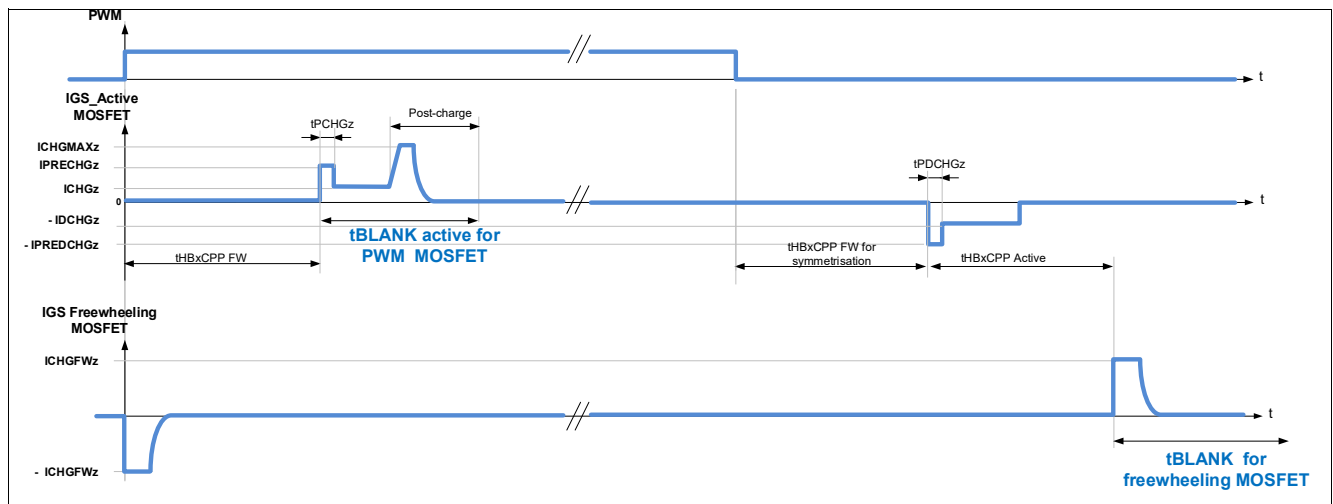
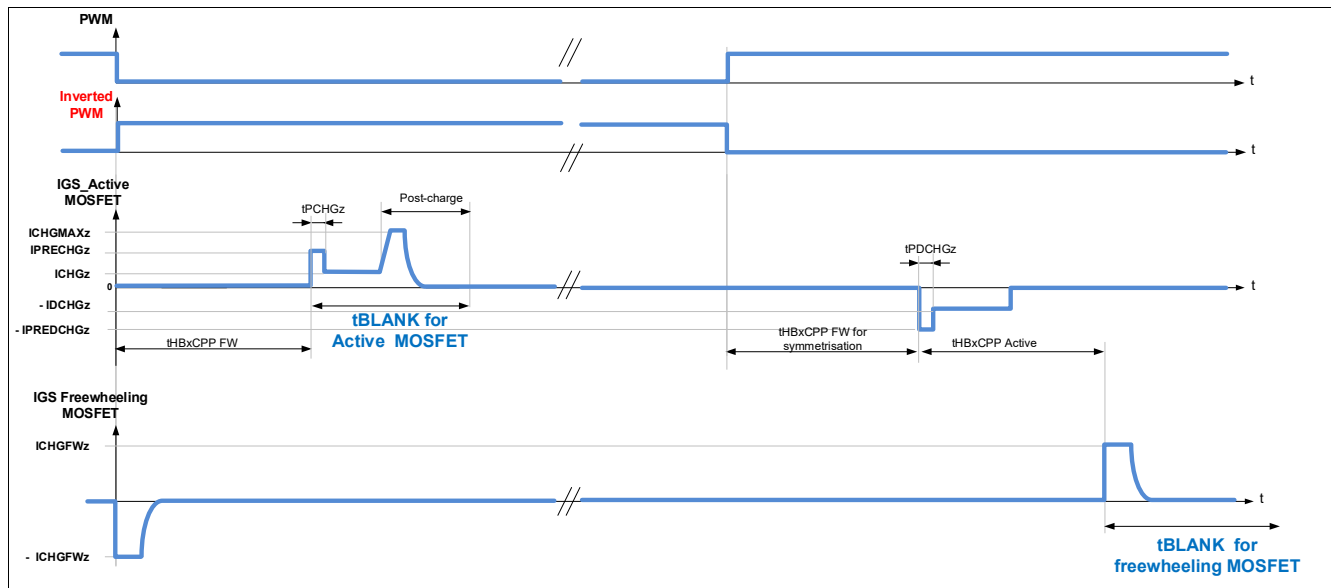

Figure 34 Blank time for half-bridges in PWM operation, detection of generator mode enabled ($EN_GEN_CHECK = 1$), motor operating as load
Figure 35 Blank time for half-bridges in PWM operation, detection of generator mode enabled (EN_GEN_CHECK = 1), motor operating as generator
- The blank time of the Active MOSFET starts at the expiration of the cross-current protection time of the FW MOSFET ($t_{HBxCPP\ FW}$). Refer to Figure 34 and Figure 35.
- The blank time of the FW MOSFET starts after expiration of the cross-current protection time at turn-off of the Active MOSFET ($t_{HBxCPP\ Active}$). Refer to Figure 34 and Figure 35.